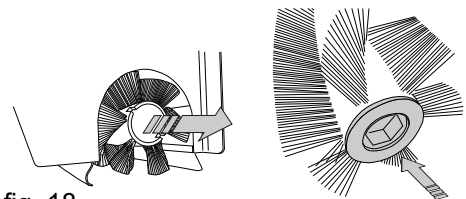

fig. 18
- Remove the worn brush (fig. 18).